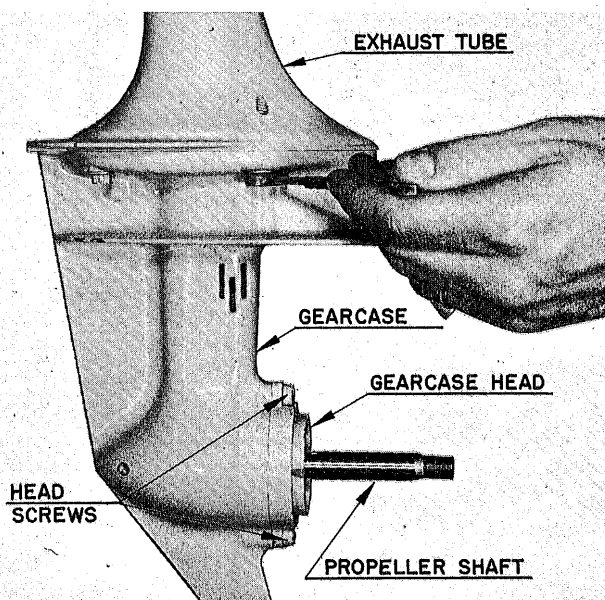

Figure 1
Four screws are used to secure the JH gearcase to the exhaust tube. Removal of these screws (Figure 1) permits detaching the gearcase from the exhaust tube in but one step. Since the water tube is held in place by the powerhead adaptor plate, it will conveniently remain in the exhaust housing
3. Remove two gearcase head screws (Figure 1). Pull gearcase head and propeller shaft from gearcase simultaneously. Separate gearcase head from shaft when removed.